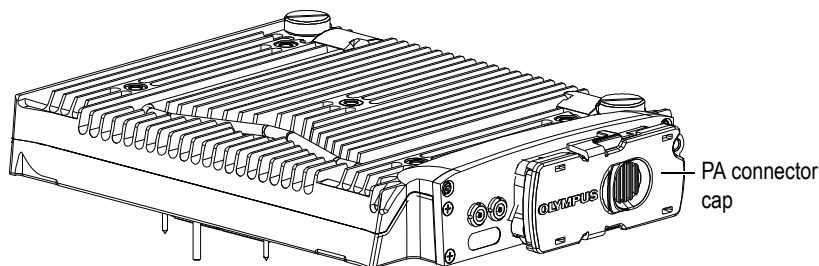

Figure 3-1 Module with PA connector cap
2. Install a PA connector cap on the PA connector (see Figure 3-1 on page 53).